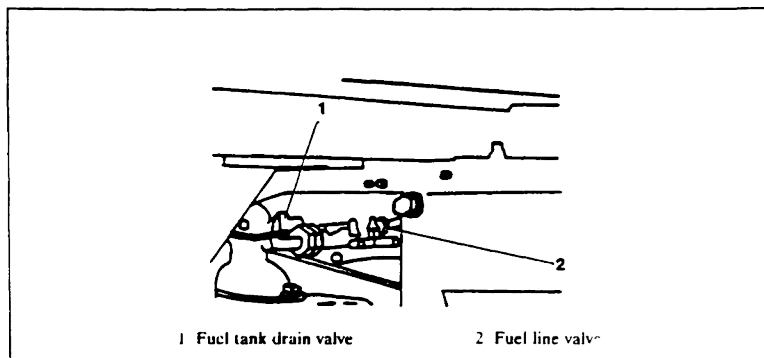

FIGURE 13. FUEL SHUTOFF VALVE
Step 1. Remove the rear guard and shut off the fuel supply (Figure 13).